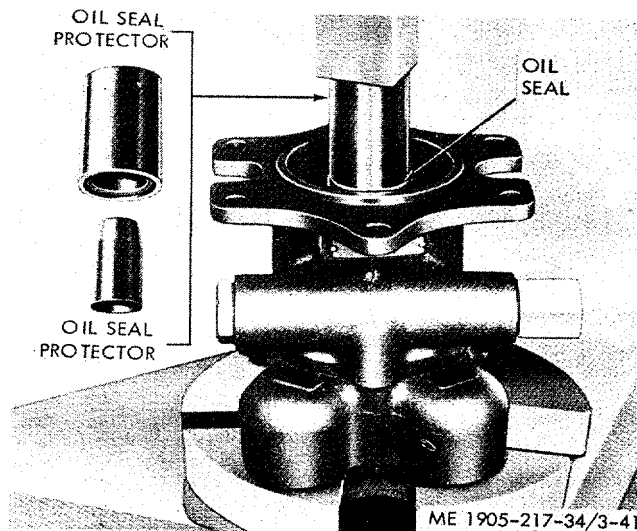

Figure 3-41. Installing oil seals in pump body.
- (4) Tighten cover to body bolts to 30-35 ft-lb torque.
- (5) Install the oil pump drive shaft oil seals (28) in the oil pump body as follows:
- (a) Place the oil seal gasket (2) over the end of the shaft and into the oil seal bore in the body.
- (b) Place an oil seal over the tapered end of the oil seal protector J 6904-2 with the lip of the oil seal facing down, (fig. 3-41).